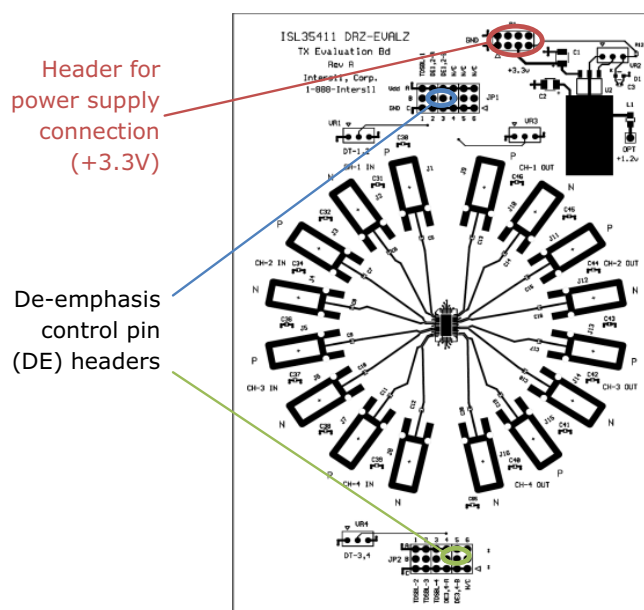

FIGURE 1. ISL35411DRZ-EVALZ EVALUATION BOARD
This section describes how to setup your ISL35411DRZ-EVALZ evaluation board: making sure proper power is applied, connecting to the high-speed RF inputs and outputs, and adjusting the output de-emphasis level for each channel. The board is shown in Figure 1.
The output driver of each channel on the ISL35411 is capable of providing seven different levels (0 to 6) of adjustable output de-emphasis. The available output de-emphasis levels range from 0dB (DE level = 0) to 4dB (DE level = 6). The de-emphasis levels of Channels 1 and 2 are controlled simultaneously by the de-emphasis control pin headers (DE) located at JP1 on the north-side of the board and highlighted in blue in Figure 1. The de-emphasis levels of Channels 3 and 4 are controlled simultaneously by the de-emphasis control pin headers (DE) located at JP2 on the south-side of the board and highlighted in green in Figure 1. Output de-emphasis